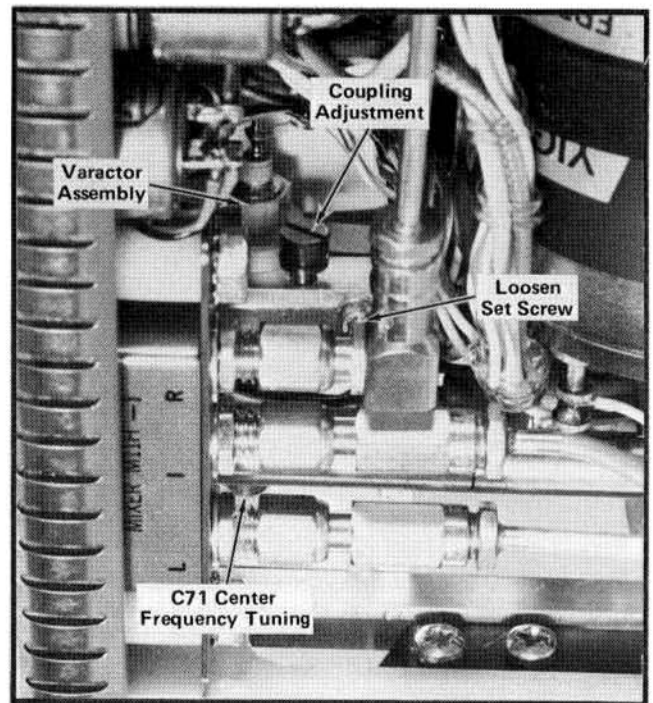

Fig. 4-9. Location of the 2nd LO adjustments.
1) Loosen the set screw on the Varactor assembly clamp (Fig. 4-9) with a 5/64 Allen wrench.
2) Adjust the 2nd LO Center Freq C71 (Fig. 4-9) to maximize the amplitude and number of markers under the ramp.
3) Turn the Varactor assembly coupling adjustment screw (Fig. 4-9) until the oscillator is sweeping 6.5 to 7 MHz. Readjust the center frequency as described in step 2), then tighten the Varactor assembly clamp.